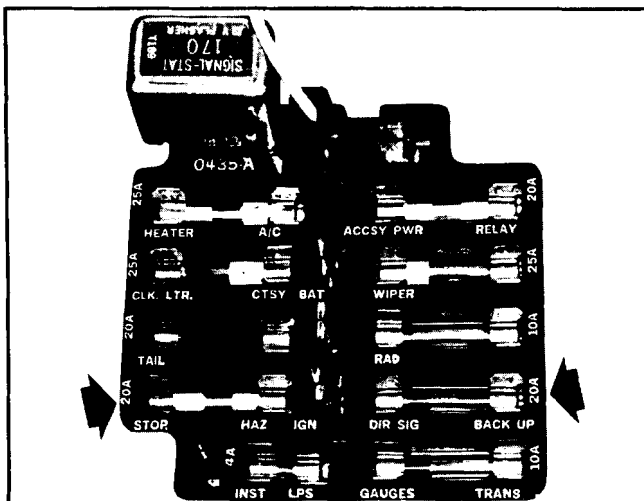

Fig. 12-9 Check Fuses in Fuse Block
1. Check fuses. (Figure 12-9) Replace if blown. If new fuse blows, replace flasher in system. (There are two (2) flashers in the signal switch system. The hazard warning flasher is located on the fuse board, while the turn signal flasher is up under the instrument panel adjacent to the column).